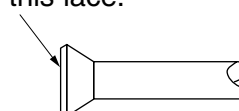

Fig. 14
- When connecting the flare nut, apply ester oil or ether oil to the inside of flared section, and turn the nut spin 3-4 times by hand before screwing in. (Refer to Fig. 14)